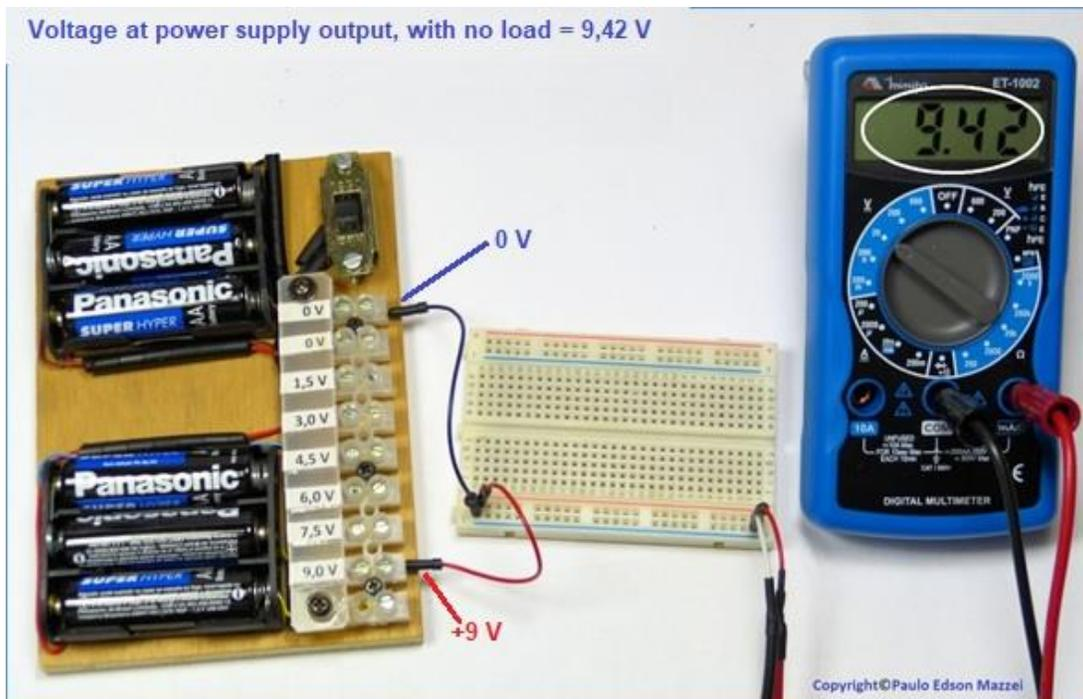

Figure 74 - Voltage output of the power supply at the 9 V point.
5. Figure 74 shows the voltage measurement of power supply. Note the polarity of the probes and the power supply. Also note that the digital multimeter panel shows the symbol for "Continuous Current". In the case of AC Voltage - Alternating Current measurements, the symbol shown is.